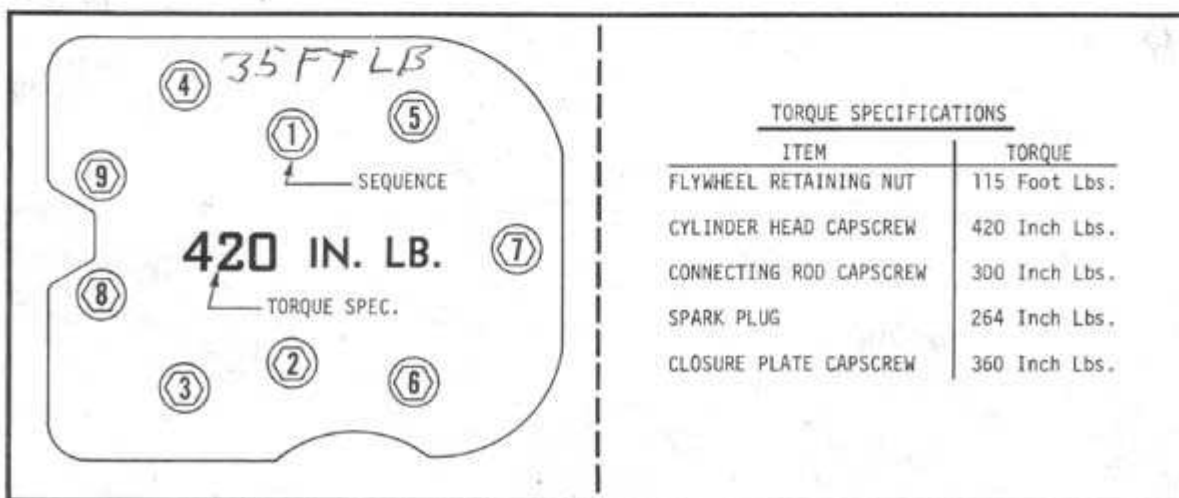

FIGURE 11 -- CYLINDER HEAD TIGHTENING SEQUENCE & TORQUE SPECIFICATION
4. After valves are in proper adjustment, position new head gaskets and reinstall cylinder heads. Make sure head bolts are tightened in the proper sequence and to the torque value specified in Figure 11 on page 13.